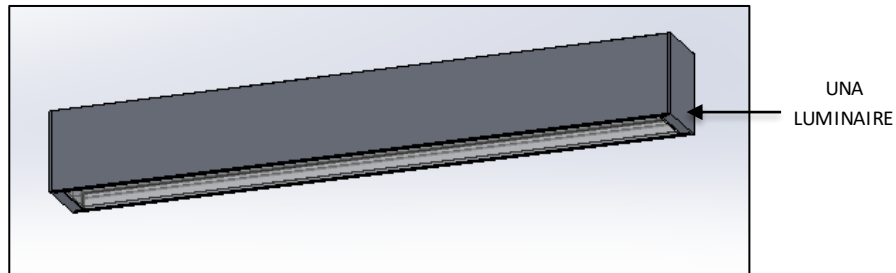

FIG.2 - UNA LUMINAIRE
1. UNA LUMINAIRE. (shown in FIG. 2)